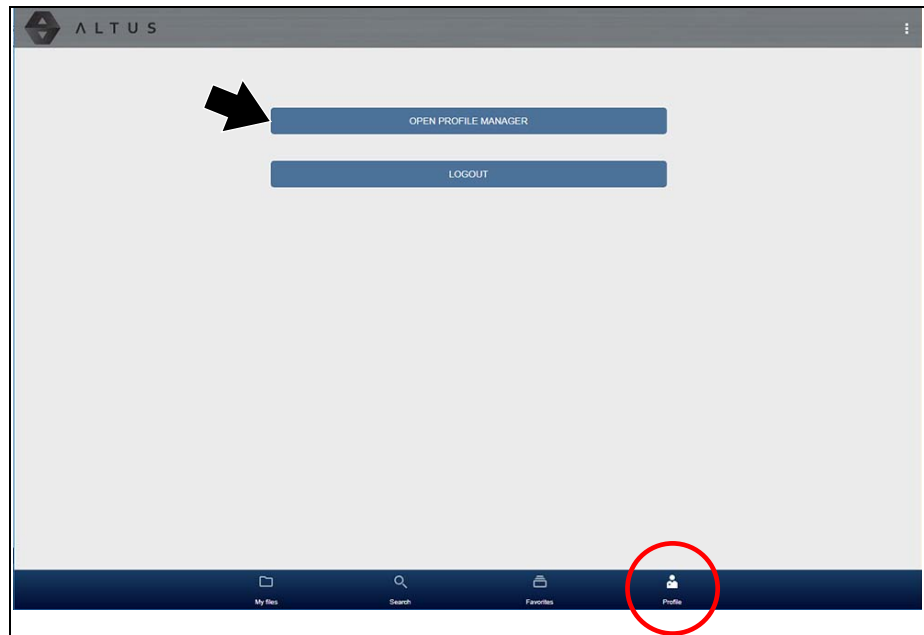

Figure 12-17
- Open Profile Manager (Figure 12-17), see Using Profile Manager, on page 124,
1. To open the Profile Manager screen, select **Profile** from lower toolbar, then select **Open Profile Manager** (Figure 12-17).